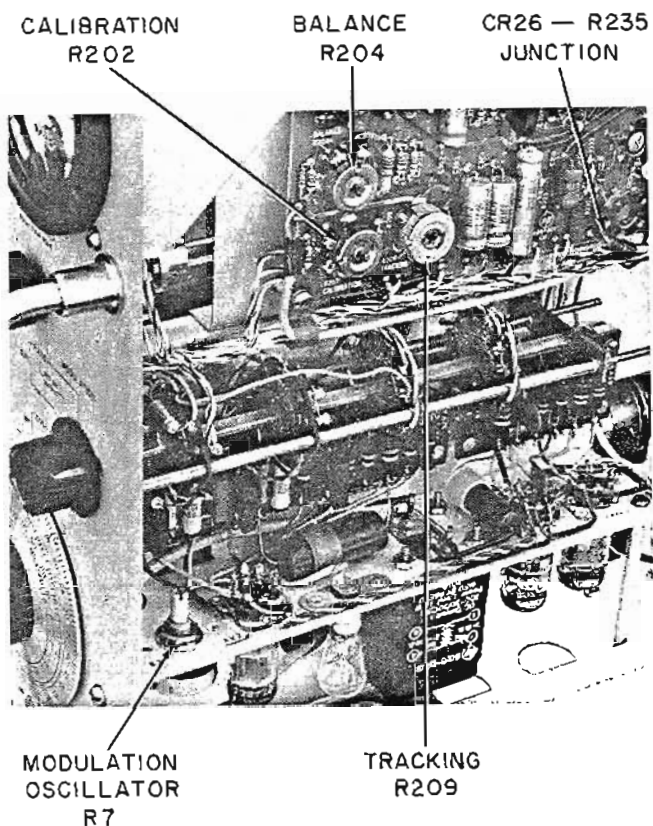

Figure 5-16. Location of Leveling and RF Output Meter Adjustments
a. Connect dc voltmeter (50-volt range) to junction of CR26-R235 (Figure 5-16) and ground.